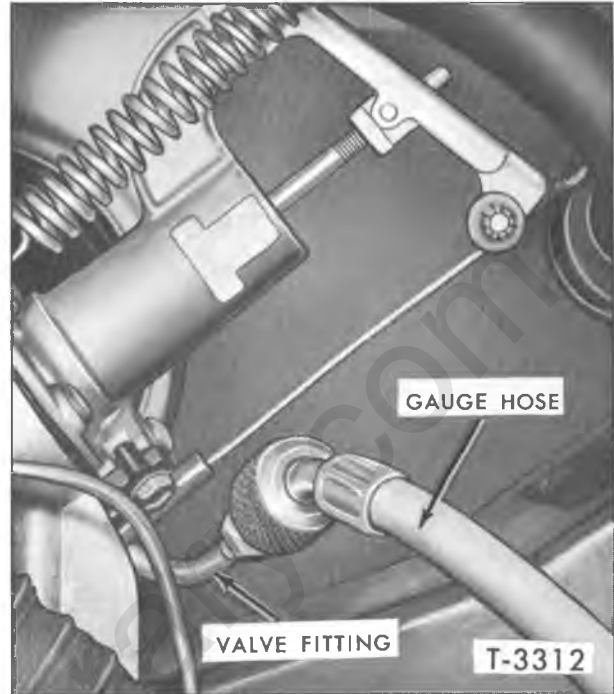

Figure 10—Gauge Hose Connection
1. Connect gauge set high pressure hose to outer gauge fitting at rear of compressor and connect 30-inch vacuum, 60-psi compound test gauge hose to refrigerant fitting at suction throttling valve (fig. 10).